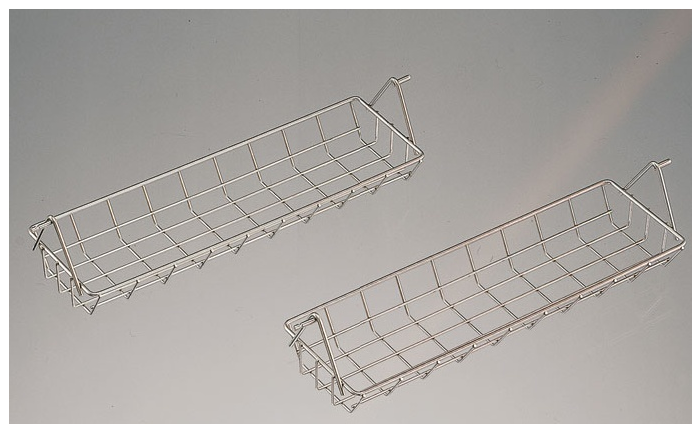

Figure 12 (type for TDR 5 is shown)
- With the TDR 5 you must stick the ends of the meat baskets through the appropriate holes of the rotor disks (see Figure 12).